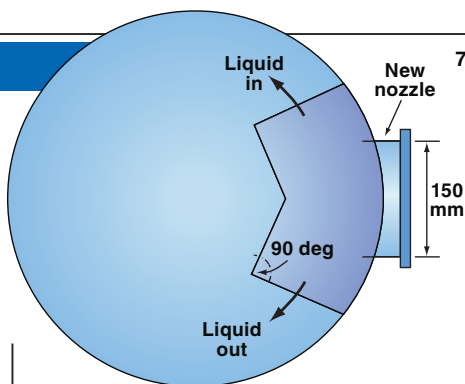

FIGURE 4. Plan view of the channel baffle is shown here
3. Installed a channel baffle (Figures 4 and 5) — which is covered on top while open on the bottom and sides — inside the condensate drum, in front of the new condensate inlet nozzle. The purpose of this baffle is to minimize bulk movement toward the liquid surface.